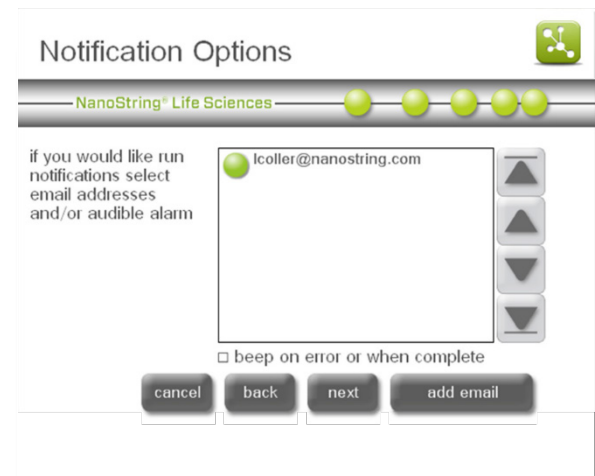

Figure 133: The 'Notification Options' screen
- The 'Notification Options' screen will appear (Figure 133).